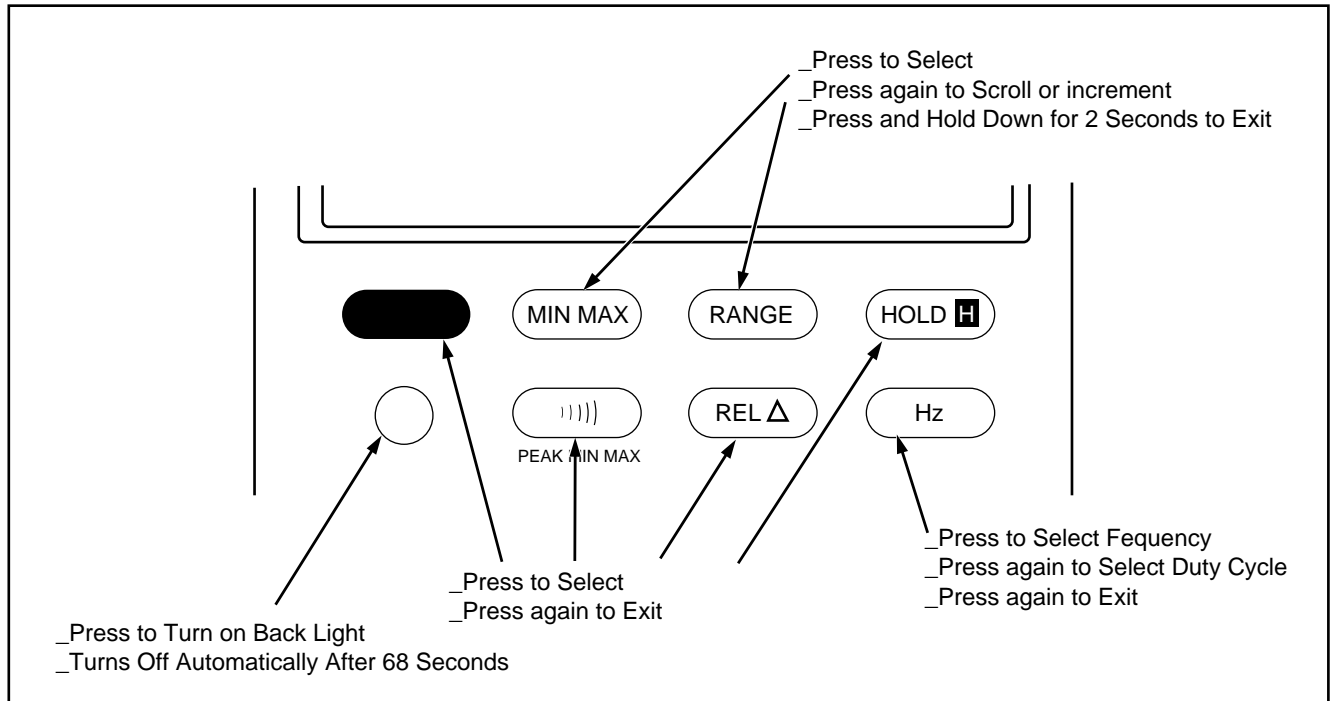

Figure 1. Summary of Pushbutton Operation
3. To select an additional operation, press the appropriate pushbuttons above the rotary switch as described in the items below. (See also, Figure 1.)
Items 6-13 describe how to use the pushbuttons. These buttons are used (in conjunction with rotary switch) to select operating modes and set power-on options. When a button is pushed the beeper sounds (unless the beeper has been turned off or the Data Output mode has been selected). A summary of pushbutton operations is shown in Figure 1. An annunciator is displayed to indicate that a mode or option has been selected. A quick way to reset all the pushbuttons to their default state is to turn the rotary switch to an adjacent function and then back to the function you are using.